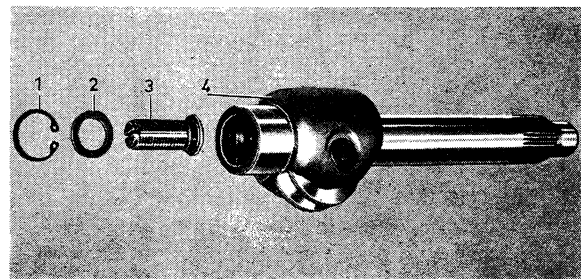

Fig. 6-42. Pitman arm shaft
5. Fit the adjusting screw, washer and circlip on the pitman arm shaft, see Fig. 6-42. The axial play for the adjusting screw should be as small as possible and should not exceed 0.05 mm (0.002"). The play can be reduced by replacing the washer (2) with a thicker one. However, the adjusting screw should be easy to turn after fitting.